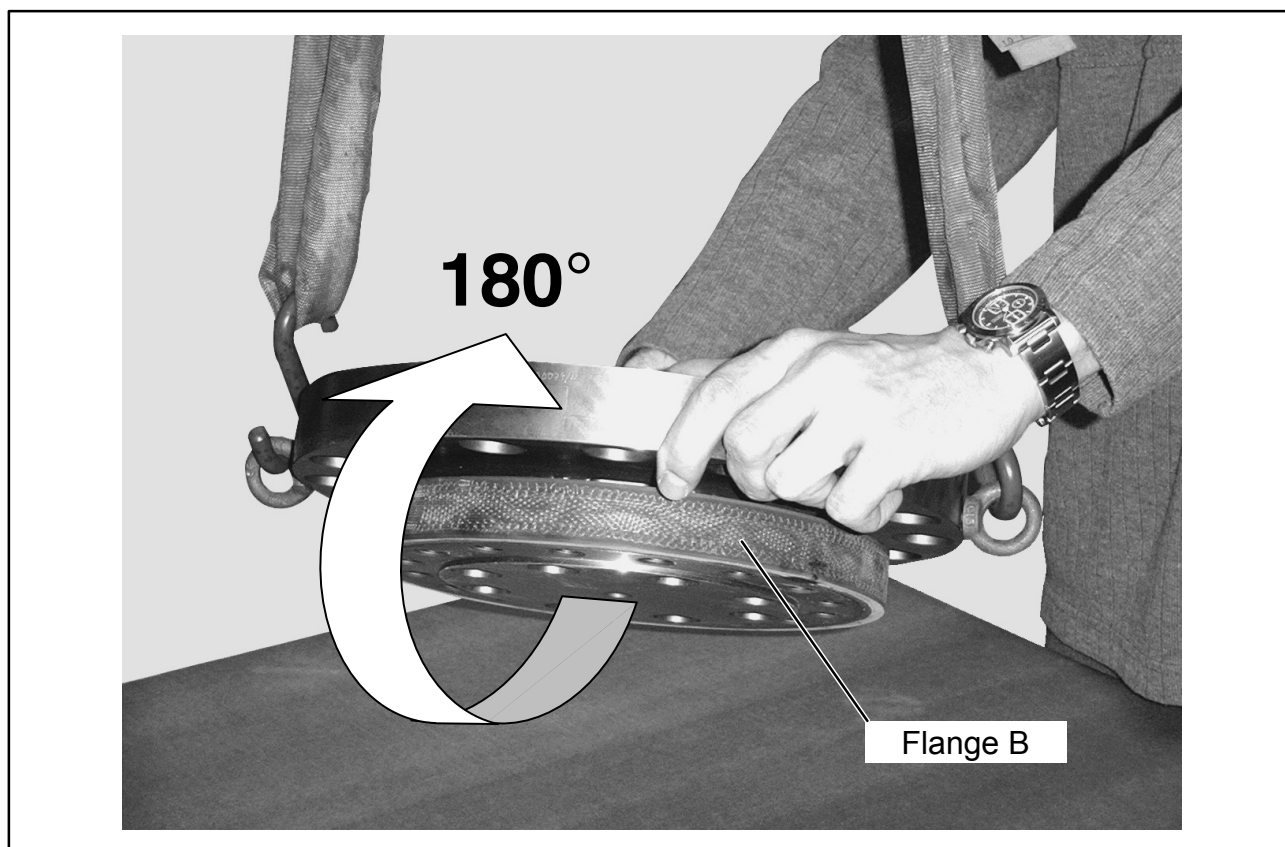

Fig. 4.2: Rotating the rotor
1. Lift the rotor out of the packaging, rotate horizontally by 10° , so that flange B is pointing upwards (see Fig. 4.2).